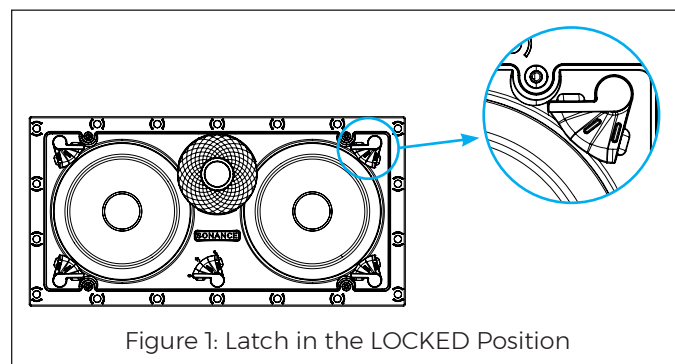

Figure 1: Latch in the LOCKED Position
1. Leave the Sonance VX LCR speaker module Flex Frame latches in the LOCKED position as supplied out of the box. This will ensure that your VX speaker remains a single piece for the one-stage installation process. The Flex Frame latches are in the locked position when clicked parallel with the longest edges of the speaker (see Figure 1).